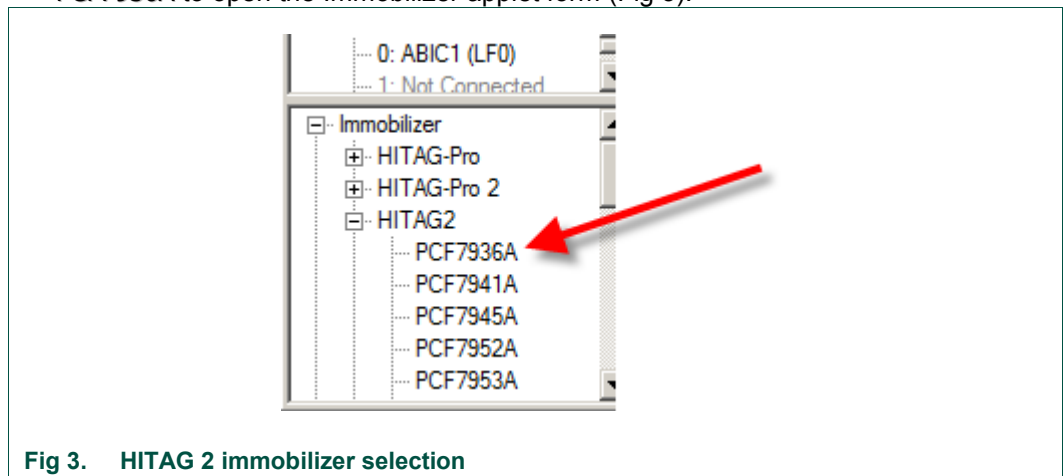

Fig 3. HITAG 2 immobilizer selection
- Expand the HITAG 2 node of the Immobilizer tree in the applet view and double-click PCF7936A to open the Immobilizer applet form (Fig 3).